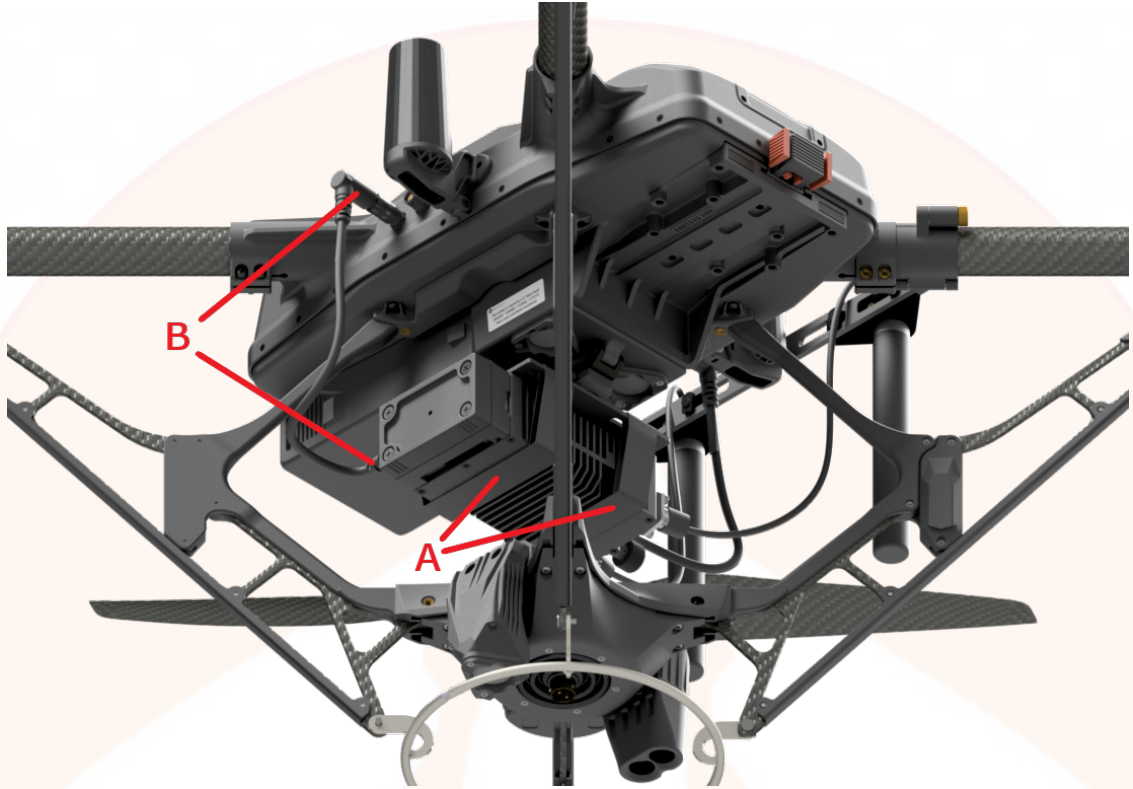

Figure 21: SC4200E-BB Radio Installation 1
1. Insert the SC4200E-BB radio into the two straps attached to the Universal Radio Plate, centered and oriented as shown, and then tighten the straps to secure the radio in place (**Figure 21, A**).
3. Connect the Battery Eliminator 10.8V Power Cable Assembly to the back of the radio and plug it into the **P1** connector on the aircraft (**Figure 21, B**).